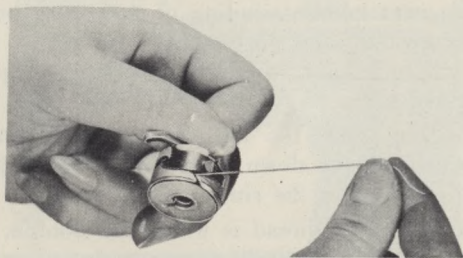
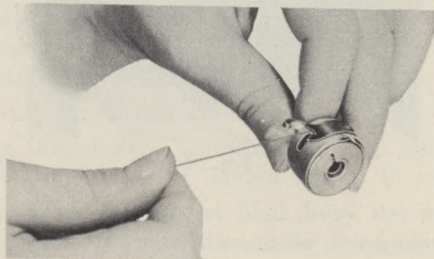

Fig. 15
Fig. 16
c. Insert bobbin into bobbin case, prevent bobbin from turning by holding latch with thumb of left hand, and with right hand pull thread into slot of bobbin case, as shown in Fig. 15; then draw it under the tension spring and up to the end of the tension spring (Fig. 16), leaving about four inches of loose thread.